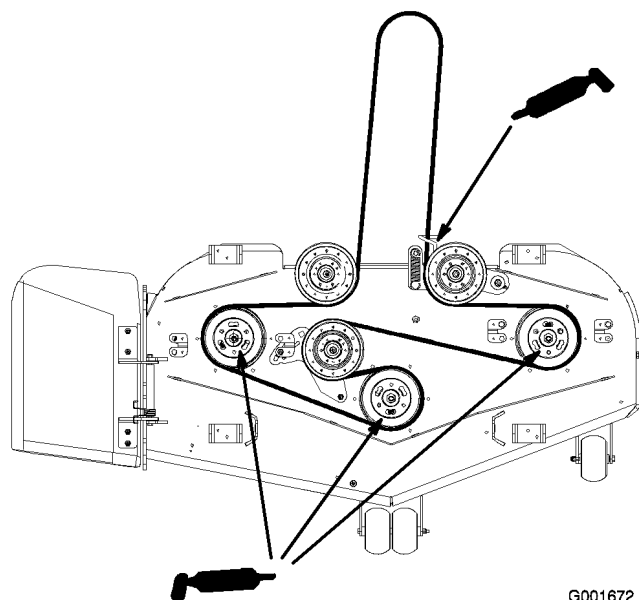

Figure 27
- Grease the three spindle bearings under the pulleys until grease comes out the lower seals (Figure 27).
- Grease the idler arm on the mower deck (Figure 27).
- Grease the fittings on the push arms (Figure 27).